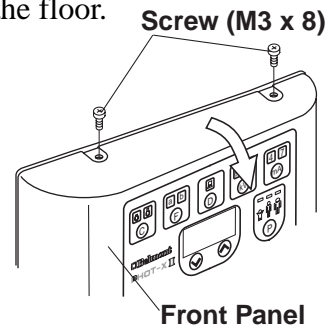
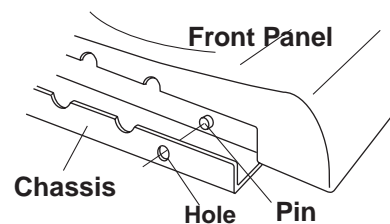

Fig.3-18 Opening Front Panel
Fig.3-21 Bottom of Sub Controller
1. Remove two (M3 x8mm) screws from top of the control box and open the front panel. **(Fig.3-18)**
7. Set the pins located on the bottom of the front panel into holes on the bottom of chassis and attach the front cover to the chassis with two (M3 x 8mm) screws. **(Fig.3-18 & Fig.3-21)**